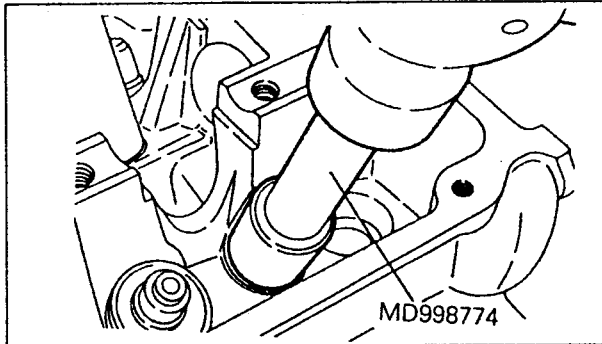

Fig. 1.28. — Driving a valve stem seal in position, using the special tool.
- Fit the valve stem oil seals. To avoid oil leaks, a special tool, as shown in Fig. 1.28 should be used for this operation. Place the seals over each guide and carefully tap down with the hollow tool. Never attempt to use the old valve stem seals. The special tool shown can be substituted with a piece of tube of suitable diameter.